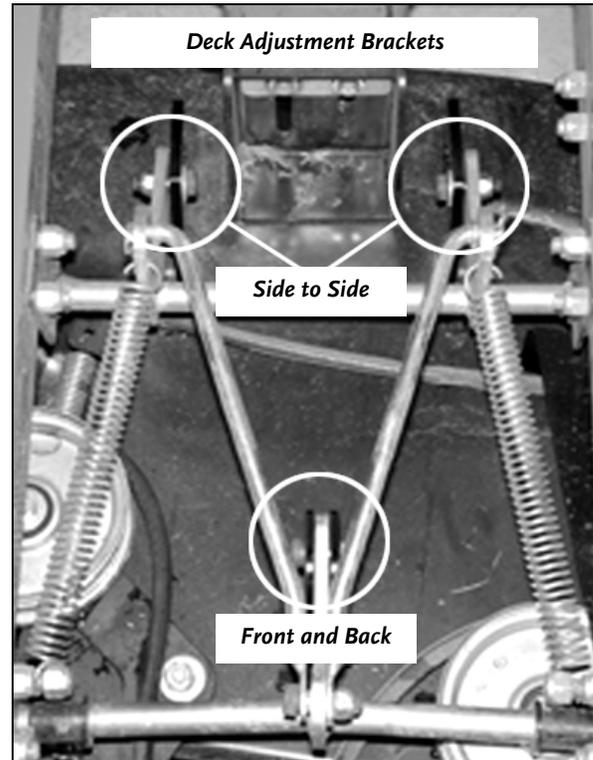

Figure 23
2. Remove the Belt Access Cover (**Figure 1** on page 11) and locate the Adjustment Brackets (**Figure 23**).